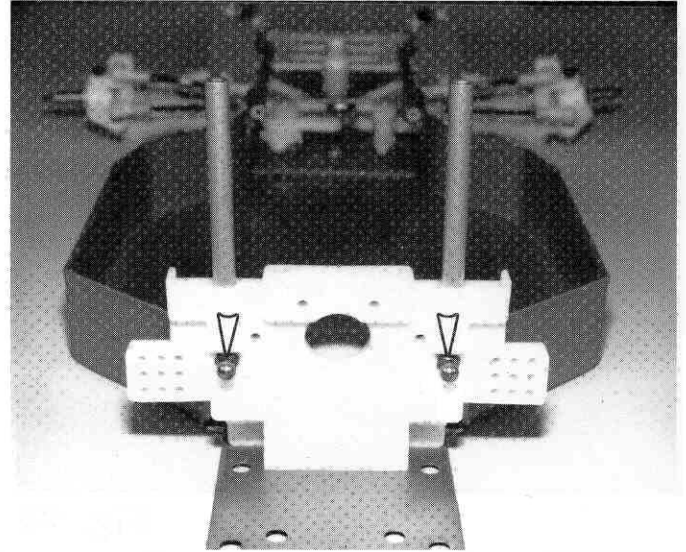

Fig. 73
□ **Fig. 73** Install two #6273 long ball ends from bag 6-14 into the upper, inner holes, as shown, below the wing tubes. Tighten them all the way down.